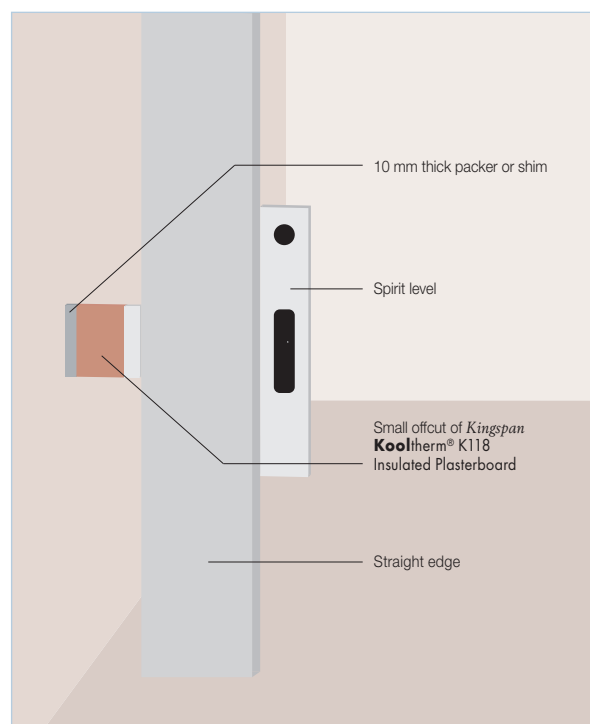
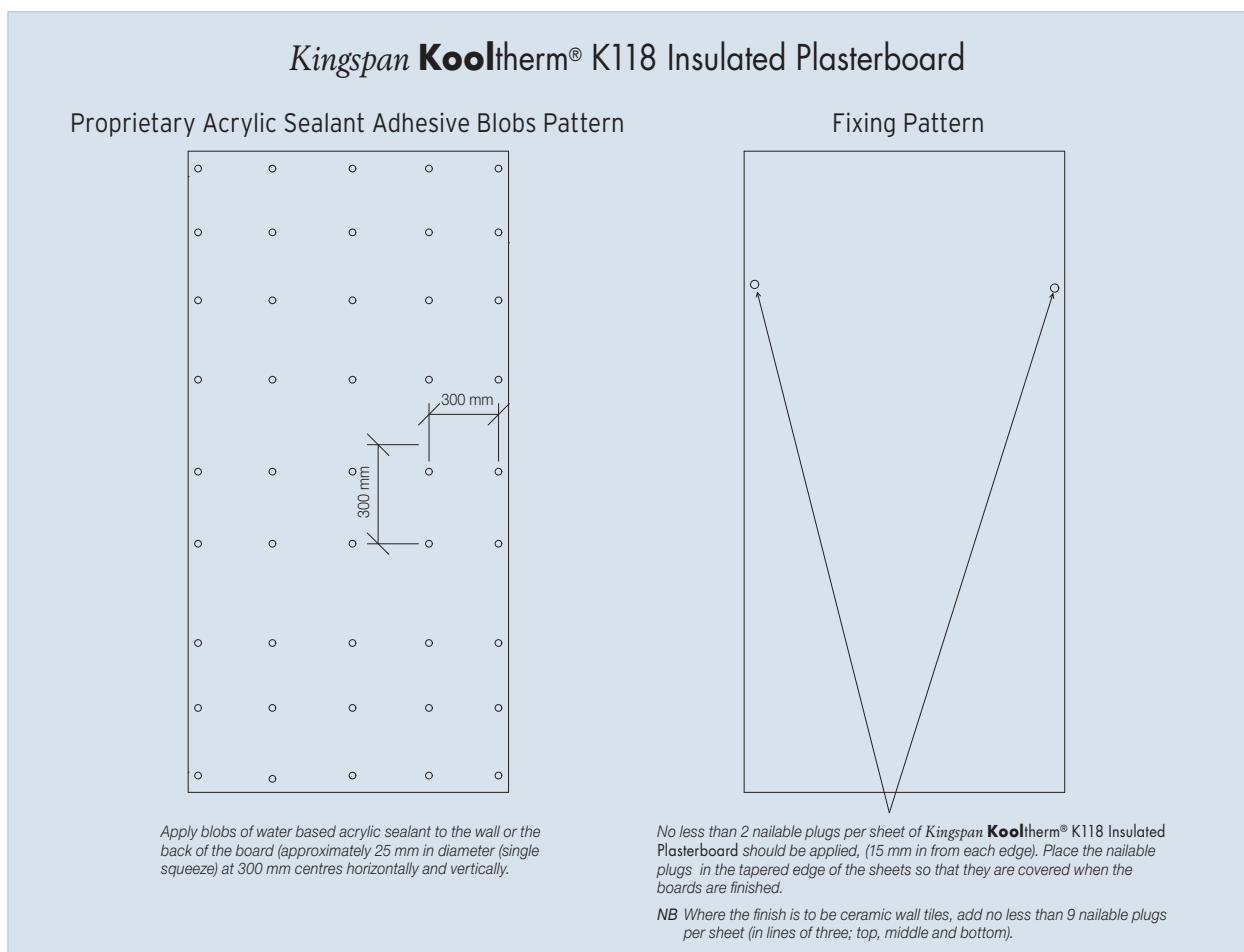

Figure 6: Setting out to install *Kingspan Kooltherm*® K118 Insulated Plasterboard
Figure 9: Acrylic Sealant Adhesive Pattern
- When installing *Kingspan Kooltherm*® K118 Insulated Plasterboard on acrylic adhesive blobs or low expansion PU foam adhesive beads, a 2 / 3 mm thick shim and small offcut of *Kingspan Kooltherm*® K118 Insulated Plasterboard should be used to determine the position of the new wall lining (this is shown in figure 6 but with a 10 mm shim). Once plumb, draw a short line across the floor and ceiling and follow the adhesive patterns shown in figures 9 and 10.
- Once the adhesive has set (acrylic sealant adhesive will grab instantly, and sets within the hour, for PU foam adhesive there is approximately five minutes cure time, and again sets within the hour. Always consult manufacturers guidelines), apply a minimum of two appropriate fixings per board as shown in figures 9 and 10.